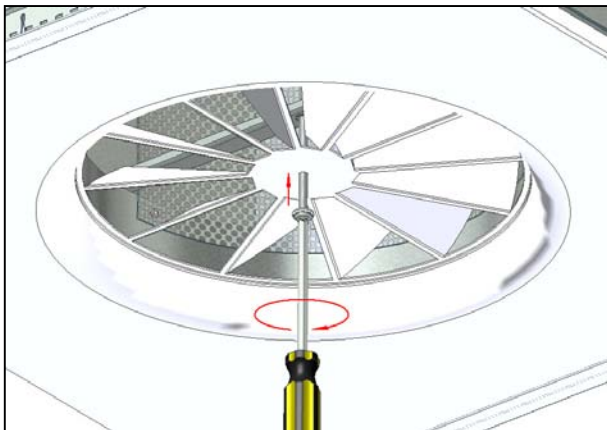

Figure 6: Screw Diffuser to Plenum
6. Once you are happy with the Plenum position, take the fixing screw from the fitting kit supplied. Remove the plastic cap from the screw and secure the Diffuser to the Plenum as shown in figure 6. Take care not to over tighten the screw as this could distort to the Diffuser face.